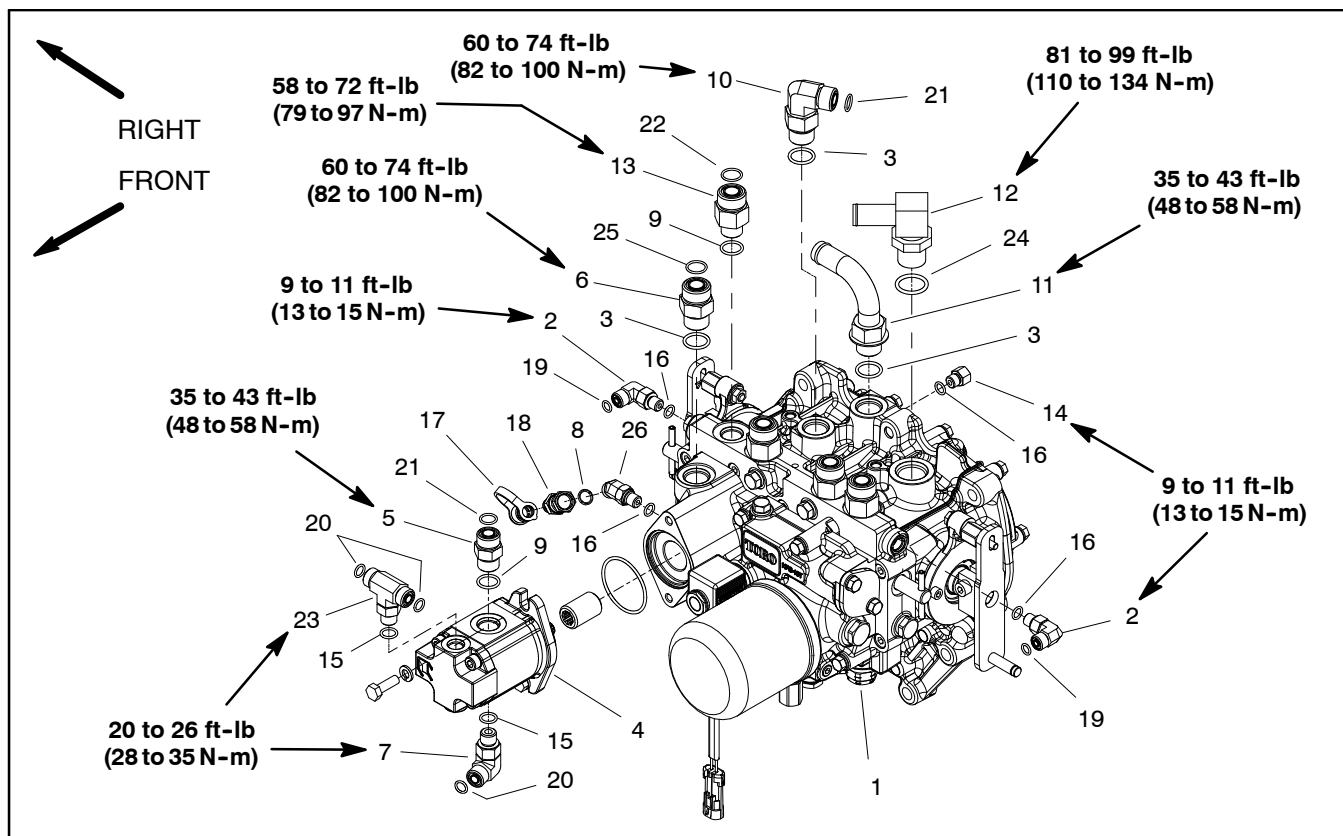

Figure 62
2. If hydraulic fittings were removed from transmission, lubricate and install new O-rings to fittings. Install fittings into transmission ports (see Hydraulic Fitting Installation in the General Information section of this chapter). Tighten fittings to torque values identified in Figure 62.